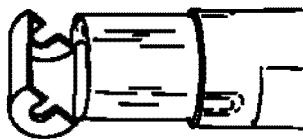

Figure 9. TG-13A Reflector
c. TG-13A. Used for heating solder termination sleeves and shrinking small-diameter tubing. Used for splice covers where wires must be shielded from heat and has to be ordered separately (Figure 9).